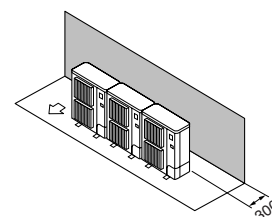

Fig. 2-8
- ① Kun forhindringer bagved (Fig. 2-8)